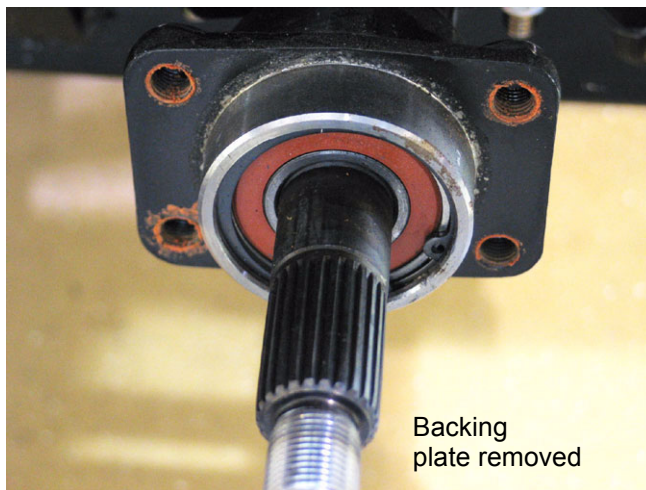

Figure 9.6
- 9.6. Remove the Brake backing plate assembly from the transaxle using a 17 mm wrench. See Figure 9.6.